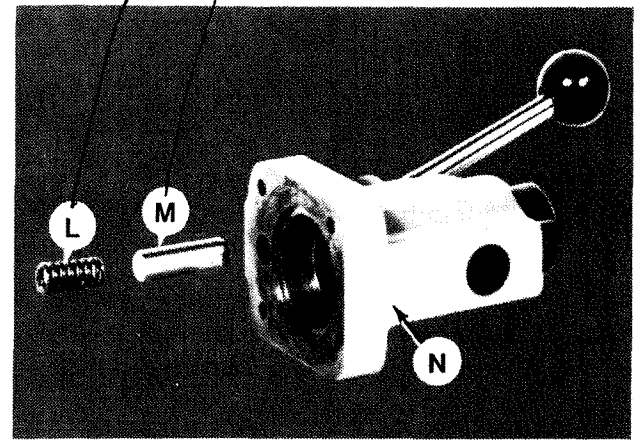

Figure 1.15 - Clutch Plunger and Spring Components
- a) Remove spring "L" and plunger "M" from clutch housing "N", Figure 1.15 .
15. In both clutch housings, pack spring "L", Figure 1.15, with Shell Alvania #3 grease.